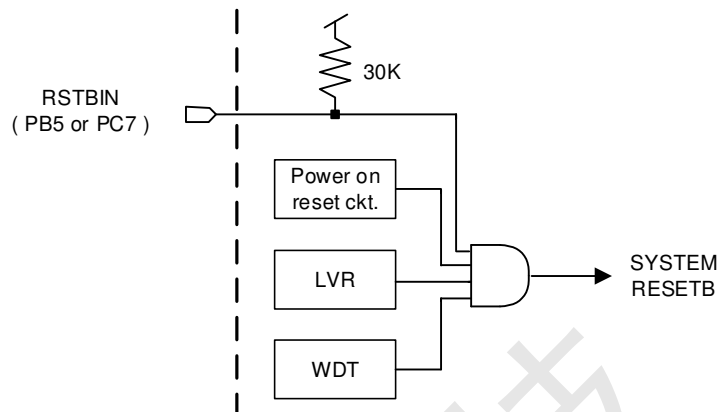

Figure 10.1 Reset system block diagram
CST16F096A(B) reset is come from four signals which are power on reset, low voltage reset(LVR), external IO PB5 or PC7 pin (by option) and WDT overflow reset, as shown in Figure 10.1. A dedicated external resetb input pin (by option) is provided to reset this chip, which has 30K ohm pull up resistor. The operation frequency of MCU will go back to BANK0 mode when reset occurred.